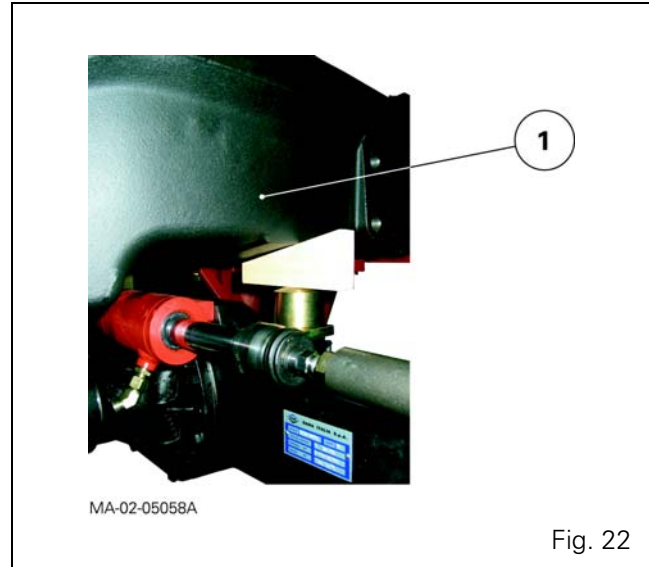

Fig. 22
46. Stop the front axle oscillation by sliding a suitable wooden chock either side of the support (1) (Fig. 22).